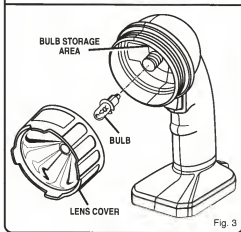

Fig. 3
See Figure 3.
**Note:** For your convenience, your flashlight has a spare bulb storage area. It is located behind the lens cover. See Figure 3.